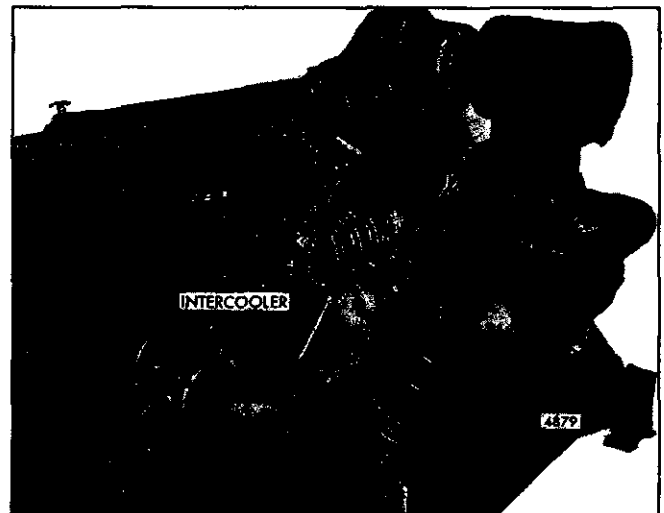

Fig. 1 - Turbocharger Intercooler Mounting
2. Loosen the two hose clamps on the hose connecting the raw water inlet tube to the inlet end of the intercooler (Fig. 1).